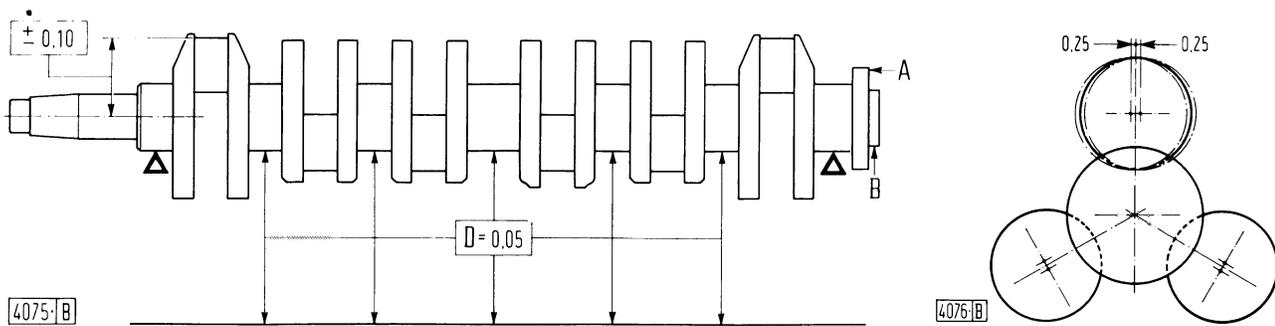

Fig. 24 - Checking main journal and crankpin alignment.
- Maximum misalignment with the shaft over V-blocks and cranks 1 and 6 at the top, should be .05 mm or .002 in (**D**, Fig. 24).
- Maximum misalignment of each pair of crankpins with respect to the main journals should not exceed $\pm .25$ mm or .010 in when measured as shown in Fig. 24.
- Run-out as measured with the dial gauge stylus in (**A**, Fig. 24) at the outside of the crankshaft flange should not exceed .02 mm or .0008 in. Eccentricity in (**B**) should not exceed .04 mm or .0001 in.